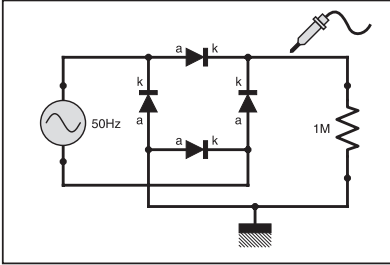
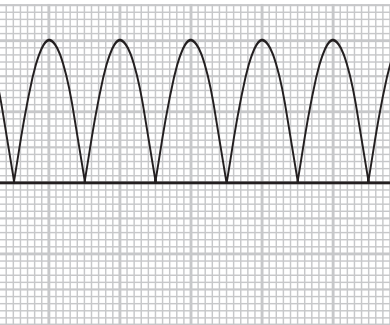

Fig.1.11. Experiment illustrating full-wave rectification.
Fig.1.12. Full-wave rectification converts an a.c. signal into d.c. but retains the “ripples” of the a.c. waveform.
The four diodes are connected as shown in Fig.1.11, and the resulting graph is shown in Fig.1.12. Notice that unlike the previous graph, the gaps have been filled to
**WARNING:** When experimenting with diodes, ensure that current is able to flow through the diodes by using a lamp (as in the half-wave circuit) or a resistor to provide a “load”, as shown in Fig.1.11. Also, with the full-wave circuit, if you are using an oscilloscope (see Panel 1.3 later) to view the waveform, the oscilloscope ground (0V) must be connected only to the d.c. side of the bridge. You cannot, for example, use a double beam oscilloscope to monitor the a.c. and d.c. sides of the circuit at the same time.